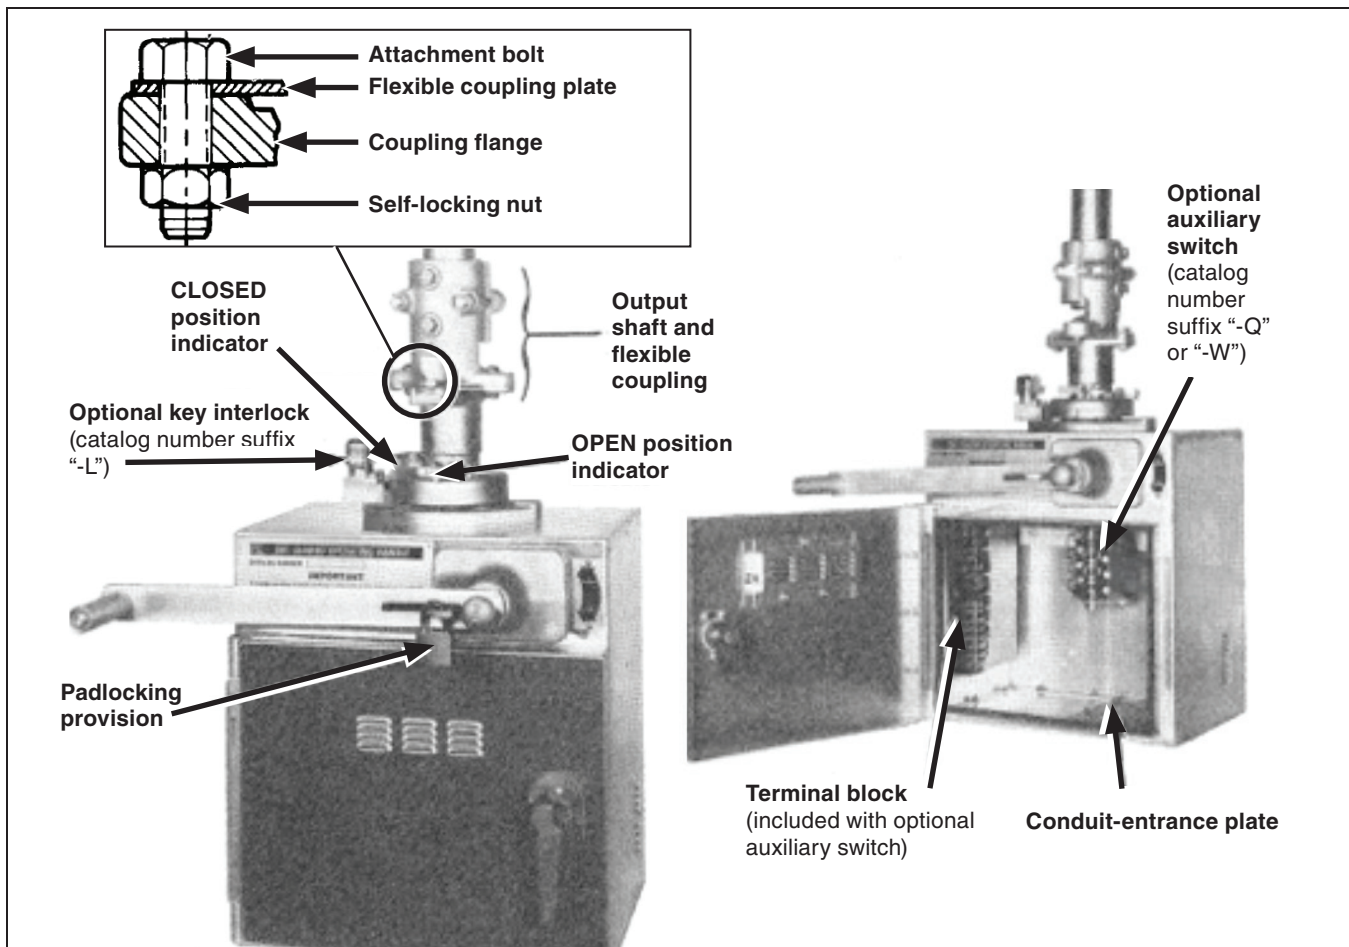

Figure 1. S&C Manual Geared Operating Handle.
- STEP 2.** Attach the flexible coupling to the output shaft of the geared operating handle. See Figure 1. Thread the attachment bolts through the flexible coupling plate and through the coupling flange on the output shaft.